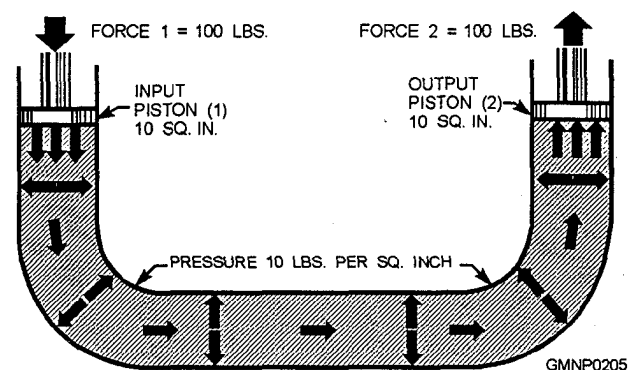
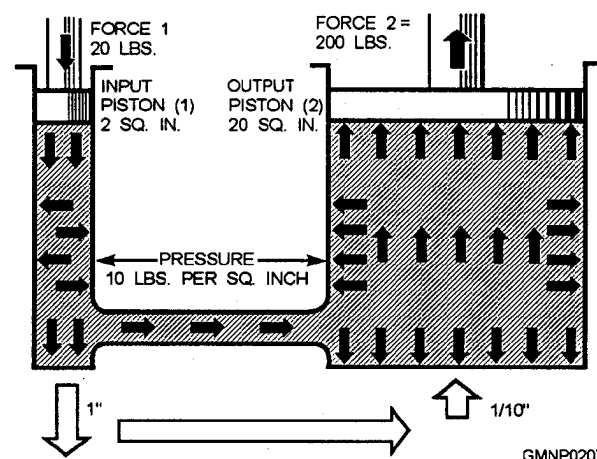

Figure 4-13—Force transmitted through fluid.
Figure 4-15.—Multiplication of forces.
Let's deal first with the transmission of applied force. There are two qualities of fluid that make them useful as a means to transmit force. They are (1) they take the shape of their containers and (2) they are not compressible. Therefore, pressure applied to a fluid in a closed container will be felt equally against the entire inside surface of the container. The force is transmitted equally in all directions, as shown in figure 4-13. This is true regardless of the shape of the container. This means that it is not necessary for the tube connecting the two pistons to be as large as the pistons throughout.
In figures 4-13 and 4-14, the systems contain pistons with the same area. This makes the output force equal to the input force. Remember what we said earlier—the force applied is transmitted to all surfaces in the container equally. Now consider figure 4-15. The input piston is much smaller than the output piston. Assume the area of the input piston is 2 square inches. With a force of 20 pounds applied to it, a pressure of 10 pounds per square inch (psi) will be felt throughout the container, including the output piston. The upward force on the output piston is therefore 10 pounds for each of its 20 square inches, or 200 pounds. We have effectively multiplied the applied force.